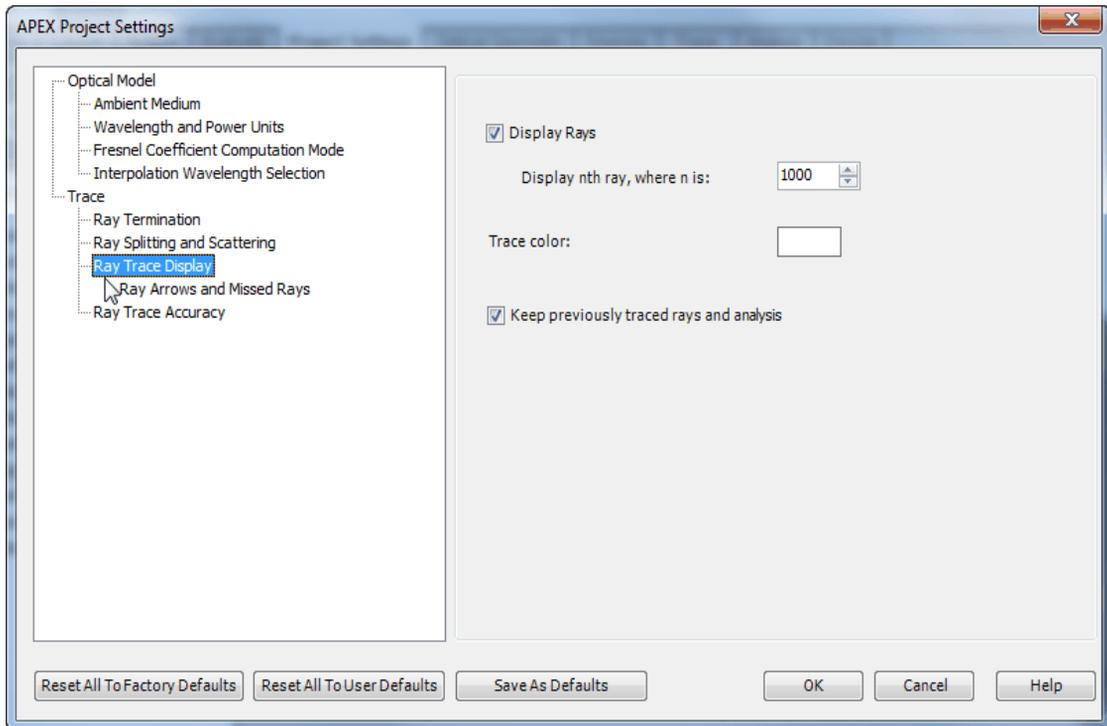

Figure 77 APEX Project Settings dialog box with Ray Trace Display settings
- 3 Change the value to 1000 next to **Display nth ray, where n is**. See Figure 77.